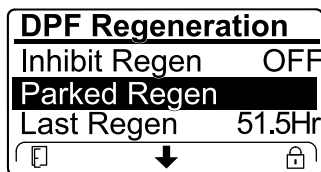

Figure 50
- If the engine computer requests a recovery regeneration or is processing a recovery regeneration and you scroll down to the PARKED REGEN option, parked regeneration locks and the lock icon (Figure 50) appears in the lower right corner of the InfoCenter.